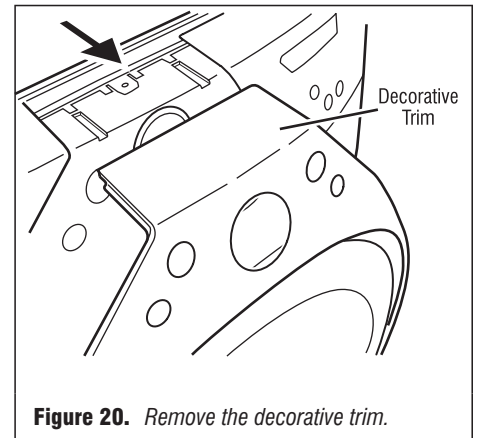

Figure 20. Remove the decorative trim.
- Gently remove the decorative trim that surrounds the door and upper console by unsnapping it from the dryer. See figure 20.